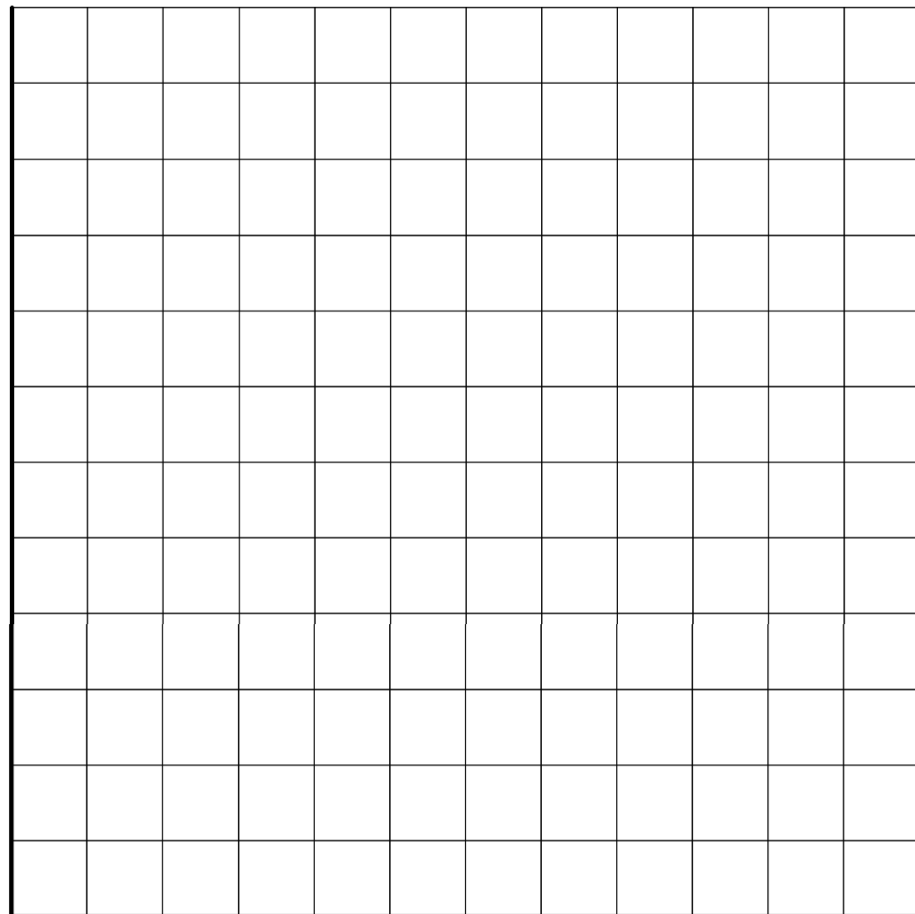

Fig. 1.2.1.2: Graph $I = f(U)$
- Plot both series of measured values in the chart below (Fig. 1.2.1.2) and join the points plotted to produce a characteristic for each resistor.